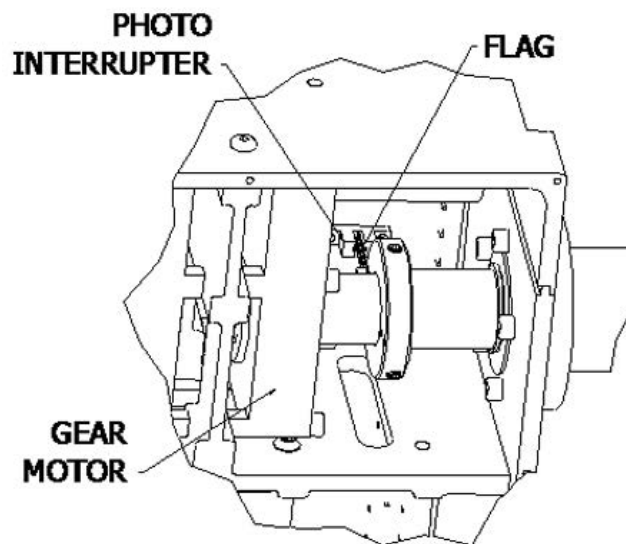

Figure 7-6 Dual-Tilt Photo Interrupter and Flag (cover removed)
3. Remove the RCP cover to access the flags. The flags are attached to the timing rings on the horizontal and vertical shaft gears (Figure 7-6). Each timing ring has two set screws that must be loosened. It may be necessary to loosen one in each, then pan and tilt the unit to access the others.